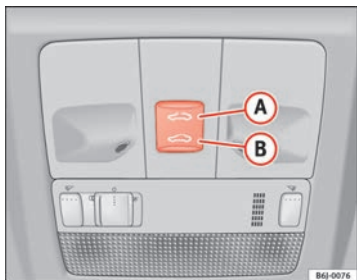

Fig. 48 Panorama/tilting sunroof
- Press and hold button **(B)** ⇒ fig. 48 ⇒ **!**. The roof starts to close until the button is released.